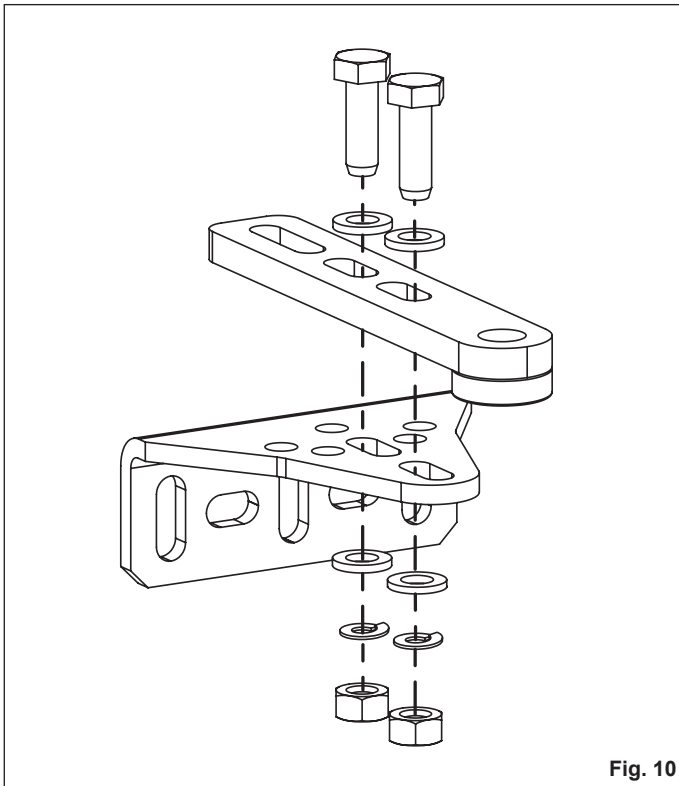

Fig. 10
- Secure the rear bracket, as indicated in Figure 10, so as to follow the A and B values determined previously.